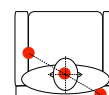

Figure 18.3: Recommended ARC microphone placements (in red) for a single listening position.
- the location of the listener's head, as shown in Figure 18.3